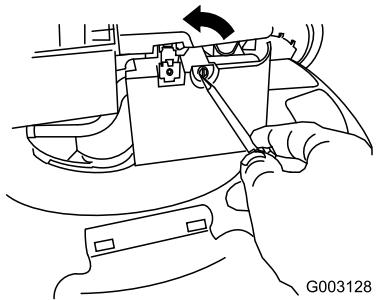

Figure 44
2. Use a screw driver to open the air filter cover (Figure 44).